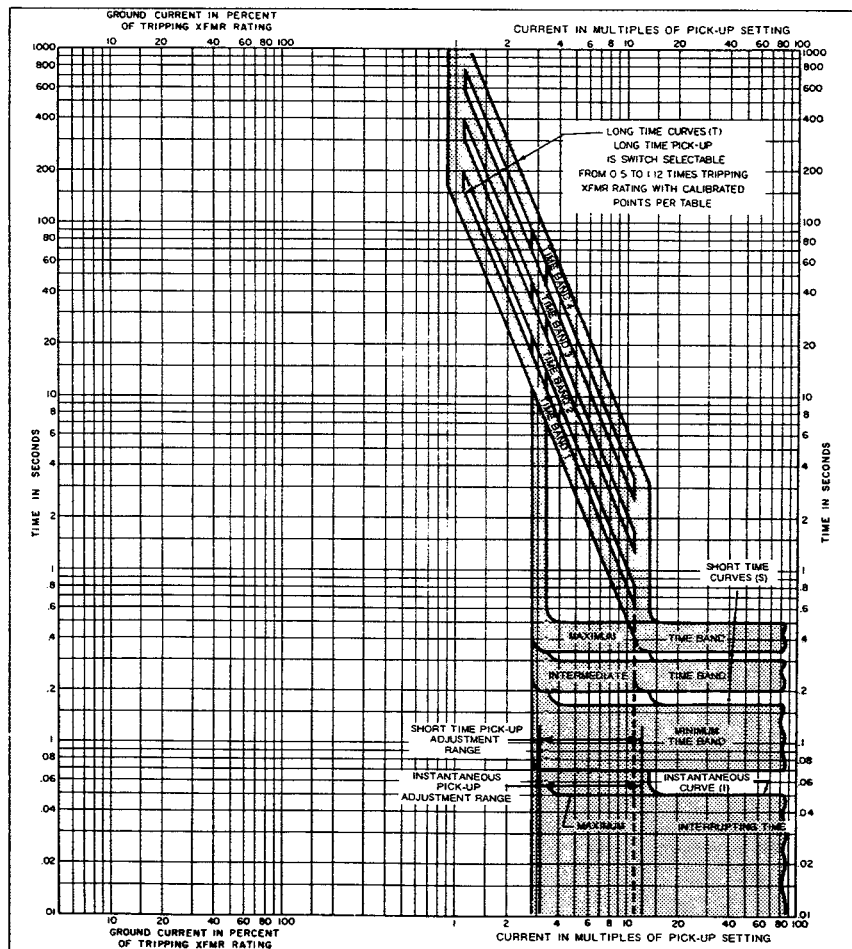

Figure 20. Limitrip Time Current Curves
5. Press the START button, the delay on the stop clock should be 0.07 to 0.170 seconds. See **Figure 20**.
6. Repeat for SHORT TIME BANDS of INTERMEDIATE (Band 3). Compare with **Figure 20**. The other phases and dif-